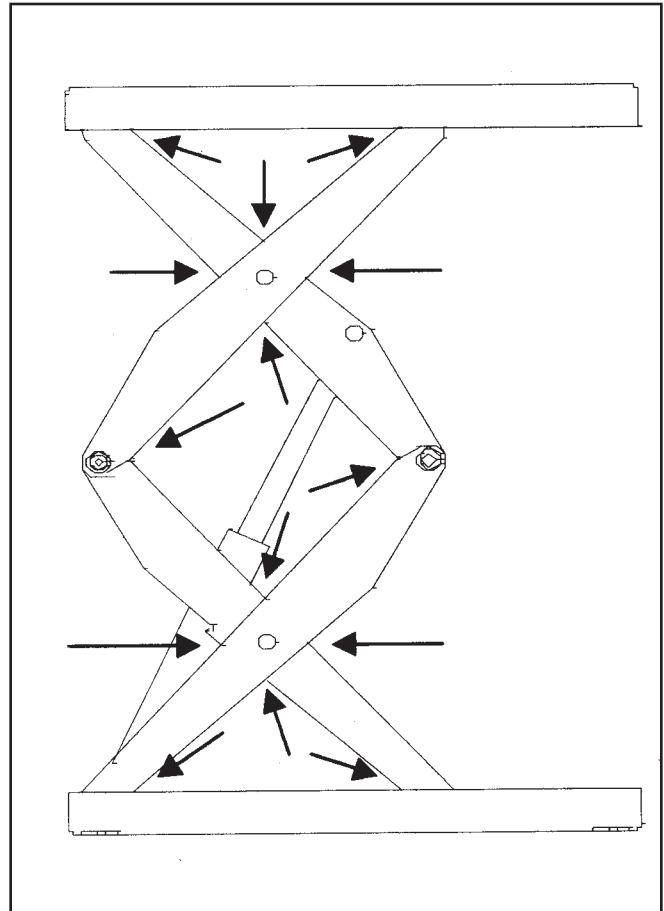
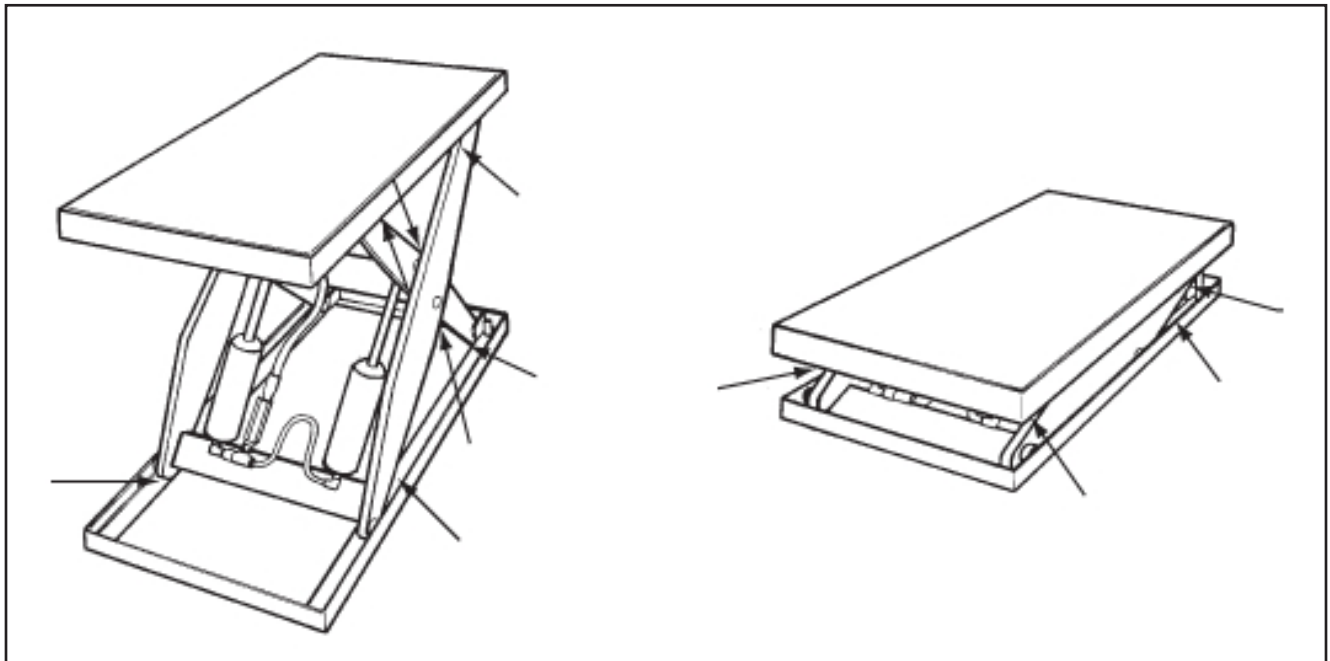

Figure 5 – Pinch Points for CBD
Figure 6 – Pinch Points for CBD
As the lift table moves up and down, “pinch points” are created at the places shown in Figure 5 or Figure 6. If you are standing too close to the lift when it is moving, your arm or leg may be caught in the moving parts, and you may be hurt. Stay away from the pinch points when the lift is moving.
As the lift table moves up and down, “pinch points” are created as shown in Figures 5 and 6. Stay away from these pinch points! Part of your body or clothing may become caught, and you may be hurt.
• As the lift moves up and down, "pinch points" are formed as shown in Figure 6. Keep hands, feet, and loose clothing away from these pinch points. If your hand or arm or a part of your clothing is caught, you may be hurt.